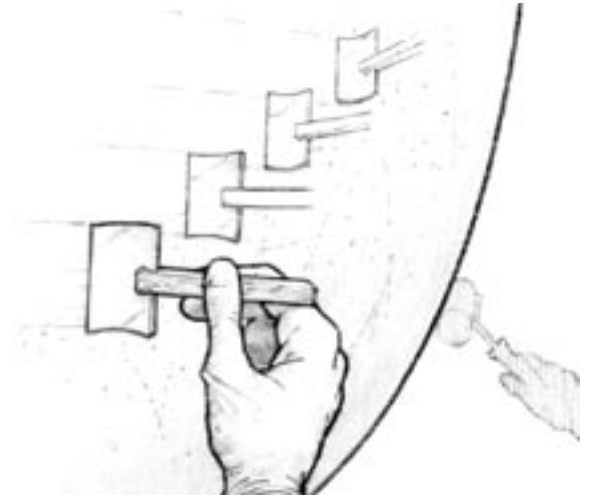

Figure 3-20 Tip off the fresh coat of epoxy with a foam roller brush to remove bubbles and roller marks.
8. Drag a foam brush lightly over the fresh epoxy in long, even, overlapping strokes after each full batch is applied. Use enough pressure to smooth the stipple, but not enough to remove any of the coating (*Figure 3-20*). See Appendix C for details on roller covers and making foam brushes.